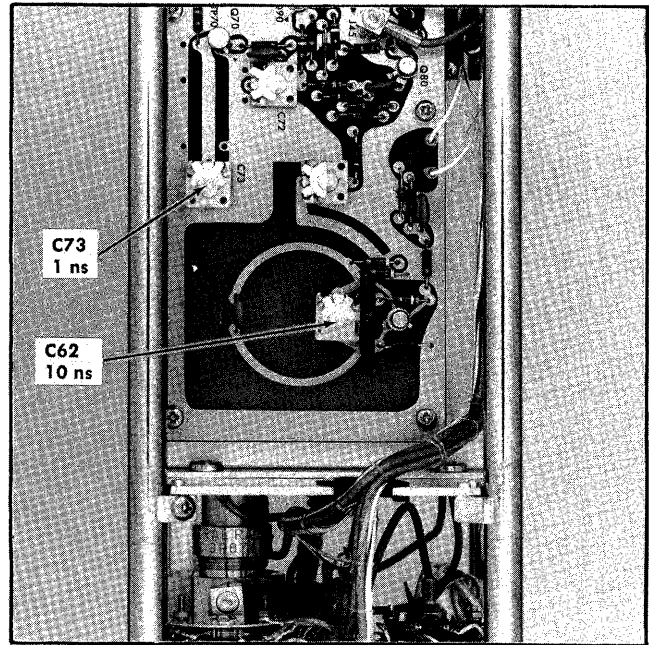

Fig. 6-18. Location of timing adjustments for steps 9 and 10.
f. Adjust C62 on the calibration board (Fig. 6-18 for location) to superimpose the Type 284 signal display (10 ns period or 100 MHz) with the Type 184 signal at the center of the graticule. Fig. 6-17B shows a lower frequency and a slight decrease in capacity of C62 is necessary. Fig. 6-17C shows a higher frequency.